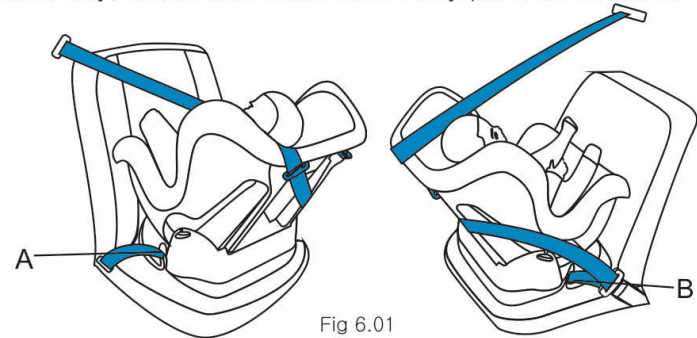

Fig 6.01
6.1.4 Let the vehicle's shoulder belt and lap belt go the way as picture. (As fig 6.01)